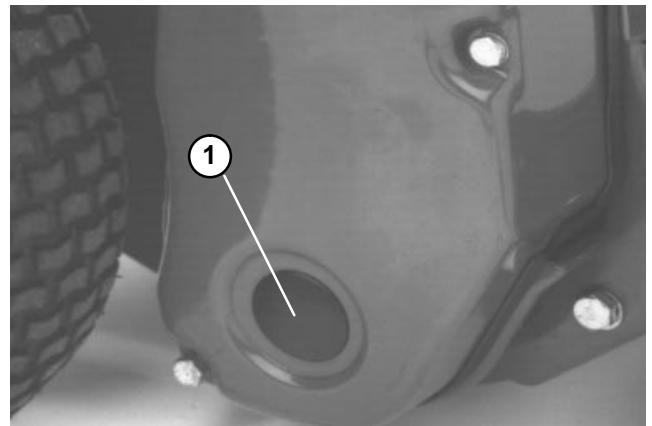

Figure 19
3. Remove the cover plug in the right reel drive cover (Fig. 19).